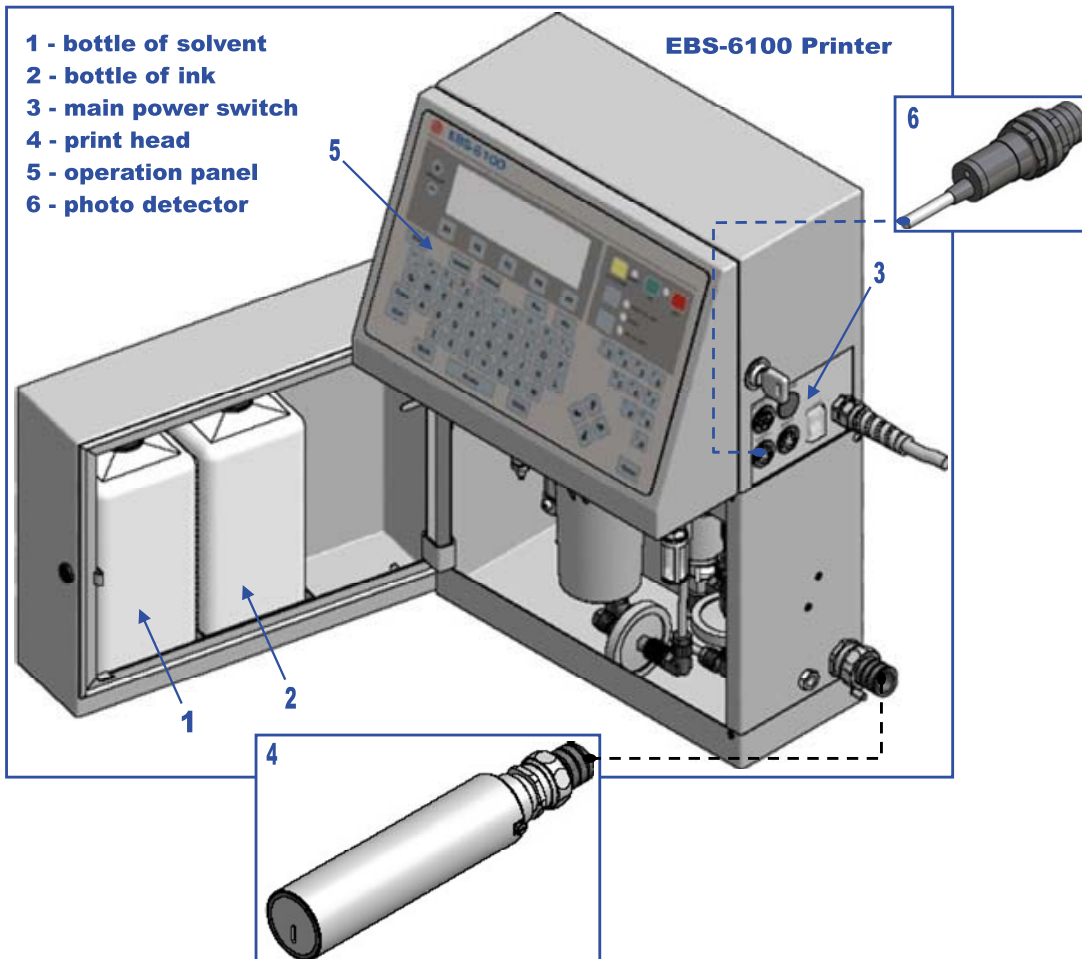

Fig. 2.1
Major components of the **EBS-6100** single-head printer are shown in *Fig. 2.1*.
The main (bi-stable) power switch, which separates electrically two power wires from the mains; it is located on the right-hand side of the unit next to the mains cord (see item 3 in Fig. 2.1). After the main power switch has been turned on, the printer triggers to the watch mode - the red lamp on the operation panel (see item 5 in Fig. 2.1) between the **ON** and **OFF** keys comes on.